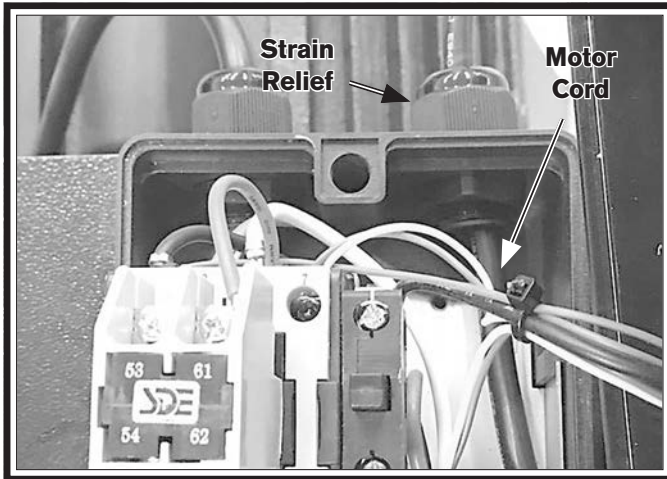

Figure 27. Filter brush motor cord routed into switch box.
27. Pull motor cord from filter brush motor through strain relief at top of switch box (see **Figure 27**).
30. Tighten strain relief (see **Figure 27**) to secure motor cords in position.
31. Attach switch box cover to switch box with (2) Phillips head screws loosened in **Step 7**.